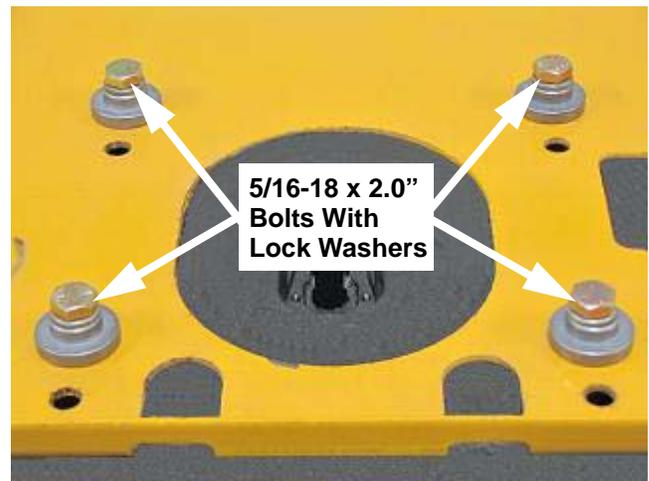

FIGURE 20
- 41. Install the four (4) Ref. #3 (736-0119) 5/16 lock washers onto the four (4) Ref. #4 (710-3103) 5/16-18 x 2.0" bolts.
- 42. Install the four (4) bolts with lock washers into the four (4) mounting holes as shown in Figure 20. Tighten securely.